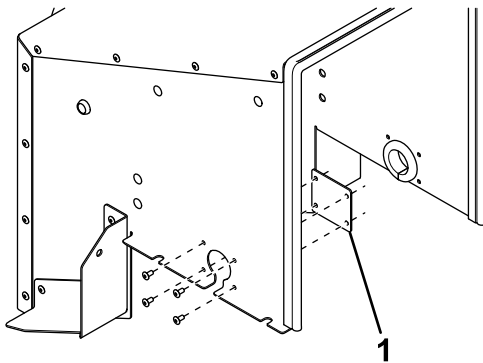

Figure 13
1. Remove the grommet cover plate on the right side of the rear cover (Figure 13).